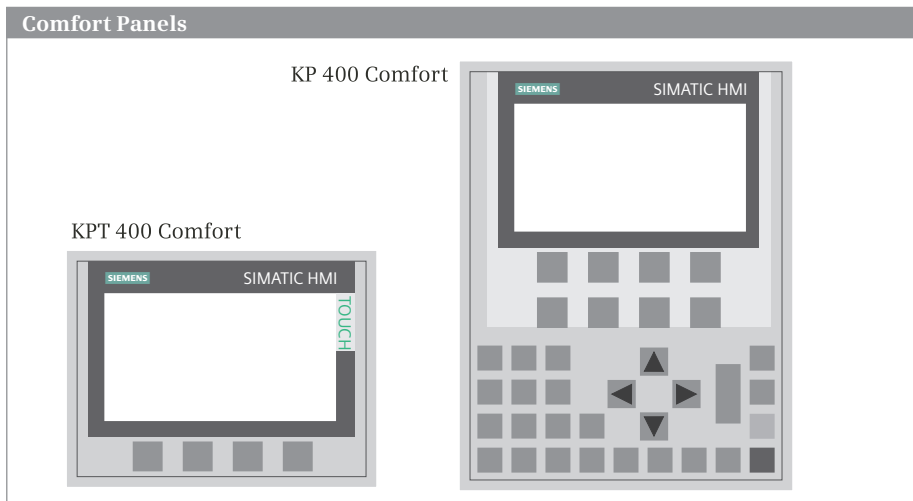

Fig. 7.4 Comfort Panels KPT 400 Comfort and KP 400 Comfort
Comfort Panels offer high-end functionality for implementing automation solutions. The devices are available in versions with 4", 7", 9", and 12" with touch screen (TP) or with keys (KP), as well as 4" version with additional keys (KTP). All function keys are equipped with LED and tactile feedback for additional reliability of operation. Fig. 7.4 shows the KP 400 Comfort Panel and KPT 400 Comfort Panel.